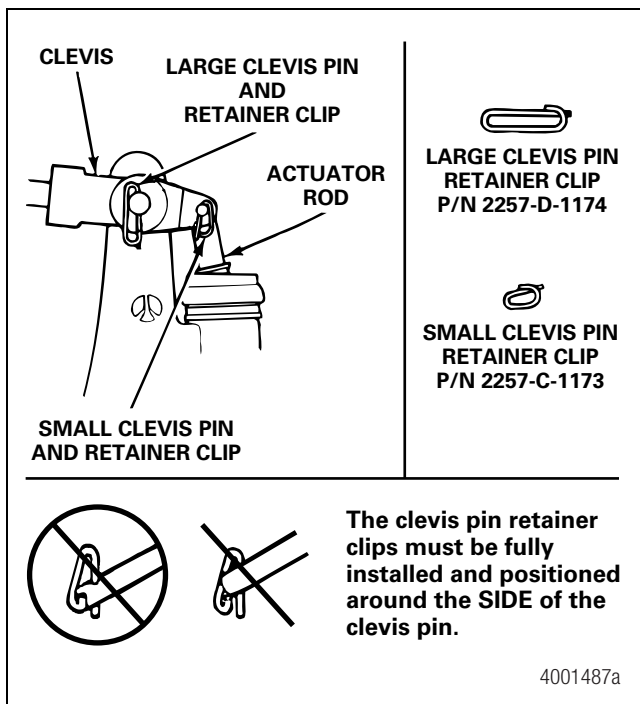

Figure 7.12
2. Install new clevis pin retainer clips or cotter pins to secure the clevis pins. Retainer clips must be fully installed and positioned around the side of the clevis pin. Figure 7.12.